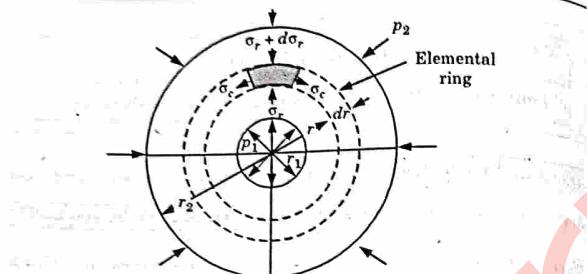

Fig. 5.22.1.
1. Consider a thick cylinder subject to internal and external radial stress (pressure) is shown in Fig. 5.22.1. Consider an element ring of internal radius r and thickness dr .